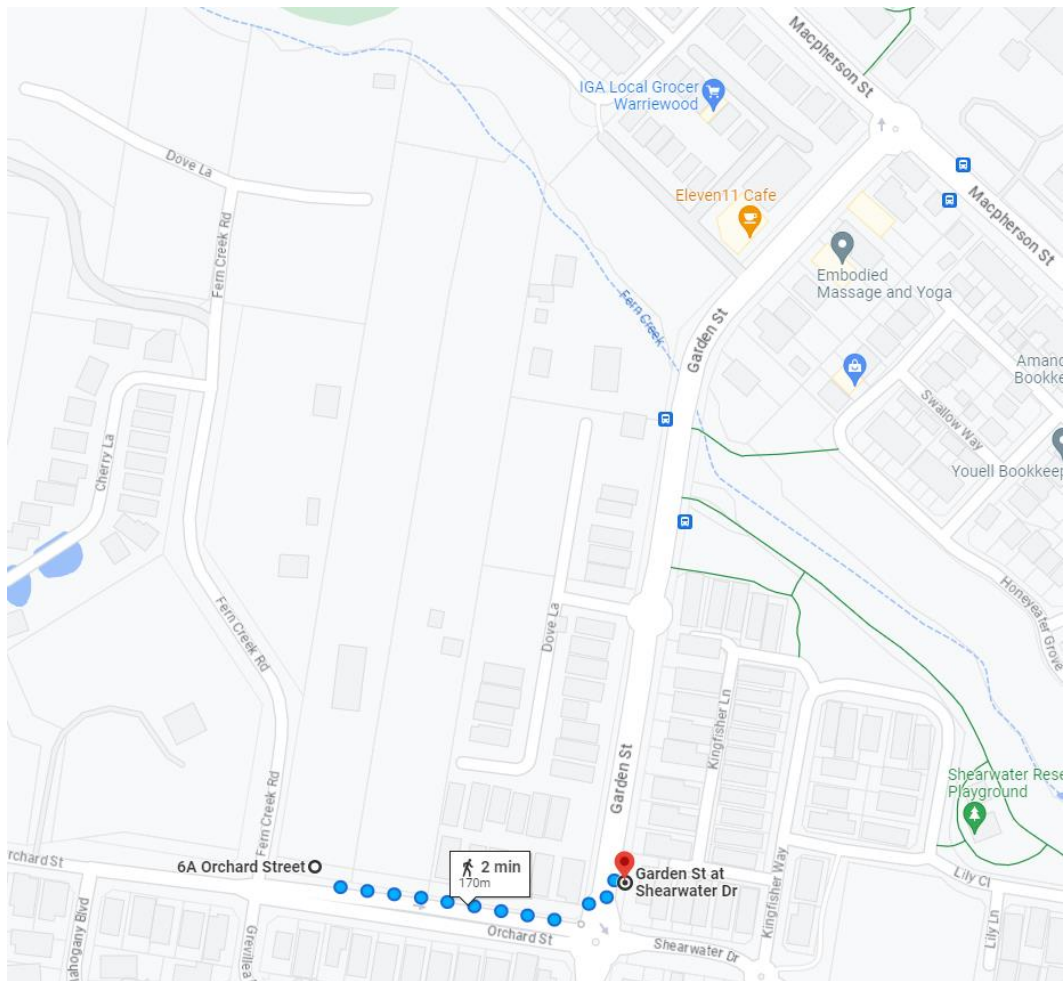

Figure 2.1 Site to Garden St at Shearwater Dr, Warriewood bus stop (Source Google maps)
- It takes 2 minute walking (170m) from the site to Garden St at Shearwater Dr, Warriewood bus stop (refer to figure 2.1).